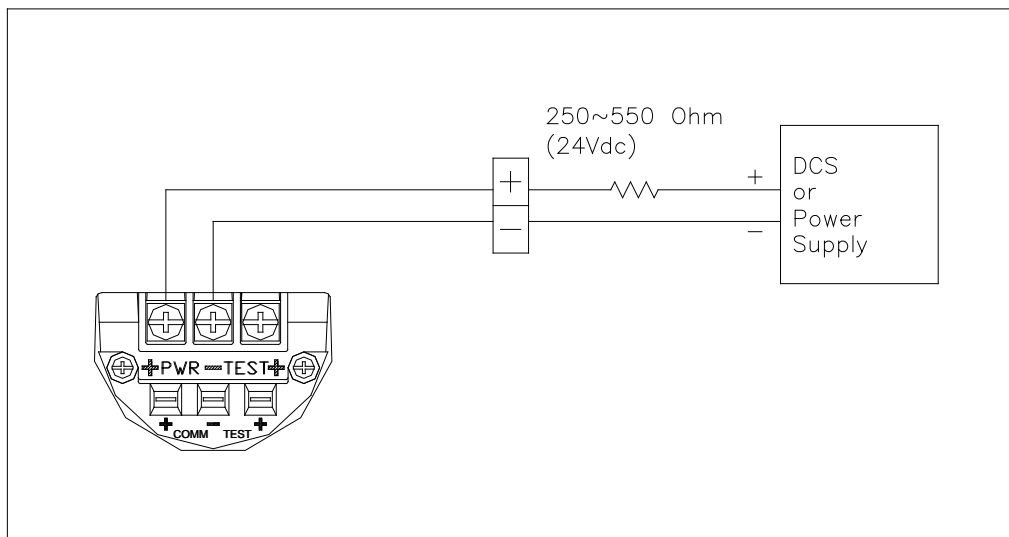

Figure 5-2 Connection with Terminal Board of Transmitter
- (7) You have to connect 250~600 W Loop Resistor in Current Loop (between Power Supply and Transmitter) for HART Communication HART. Follow Figure 5-2 about connection of Current Loop.